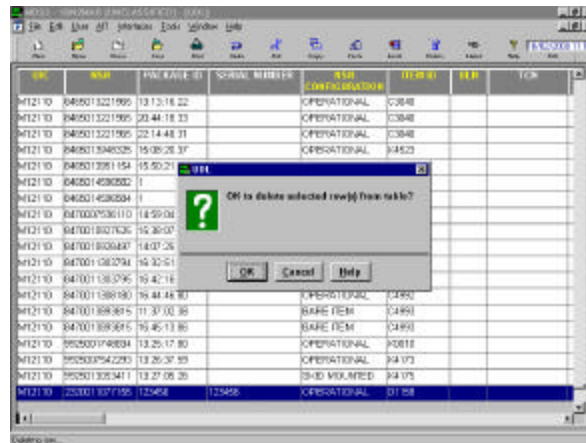

Figure 11
STEP 12. Highlight the record you just created. Select Delete from the Edit menu. Delete the record before moving on to your next exercise. The system prompts a Warning screen. Select OK to delete the record (see figure 11).